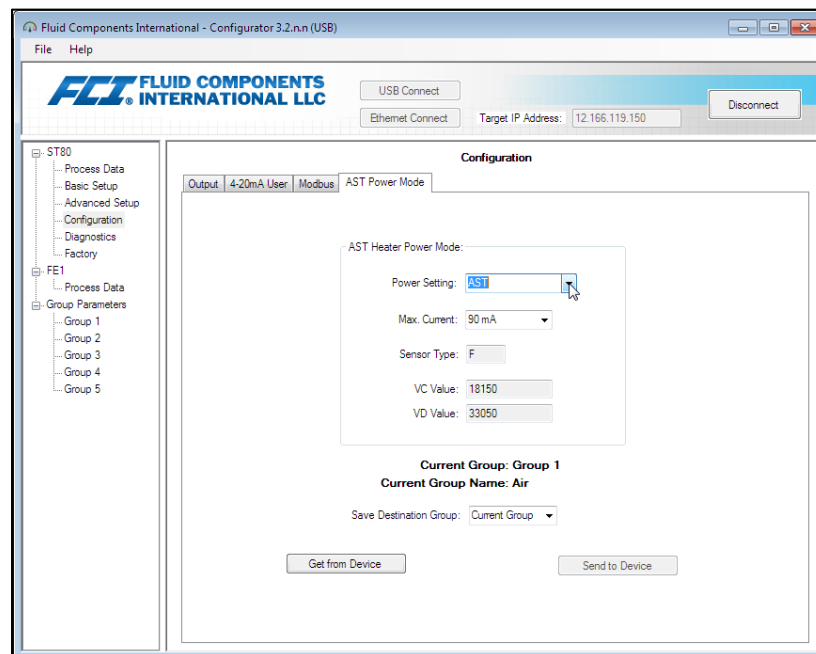

Figure 39 – Example AST Power Mode Tab (Configuration)
1. Access the **AST Power Mode** tab from the **Configuration** branch of the menu tree. See Figure 39 below.